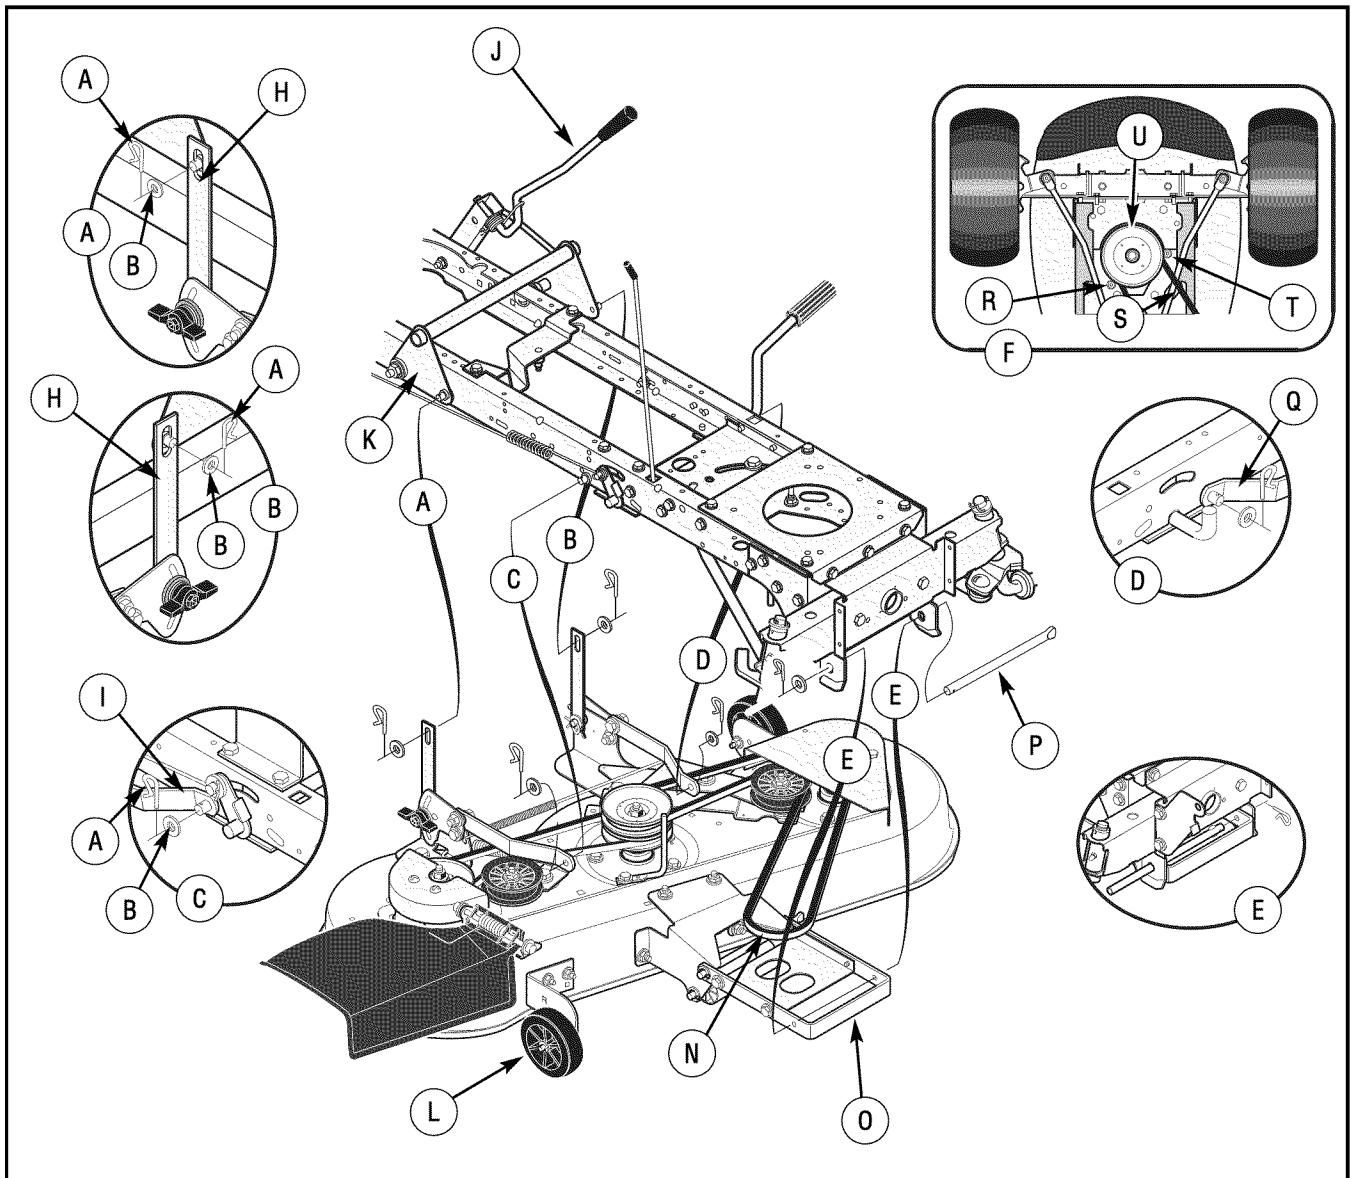

Figure 31: Mower deck assembly
3. Remove the hair pins and the washers from the **adjuster arms** (Figure 31). See illustrations “C” and “D”.